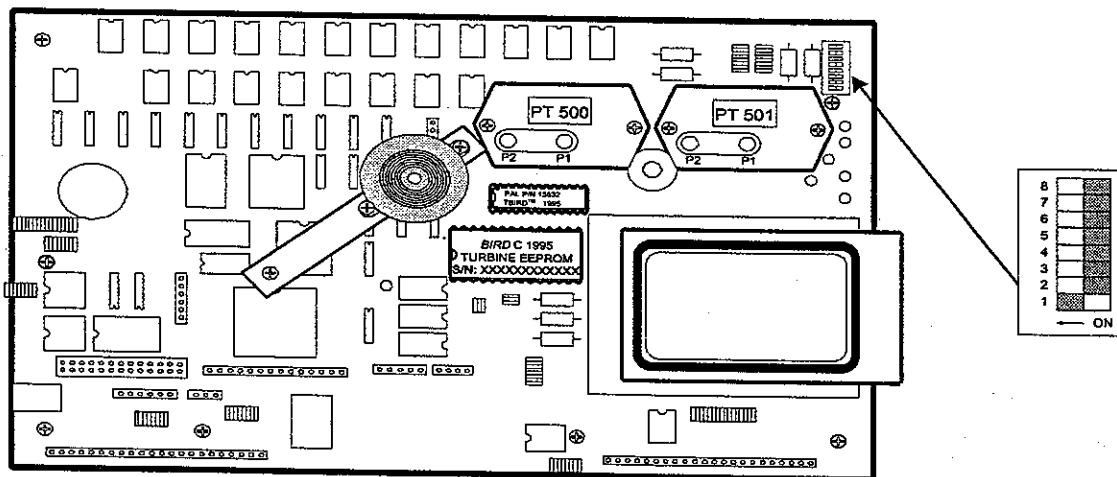

Figure 2
- 6.2 Turn dipswitch #1 to the ON position (See figure 2). Turn the unit ON. After the power on self-test the monitor window will read SVT ON. Press the Select key. The monitor window will read SOLENOID.